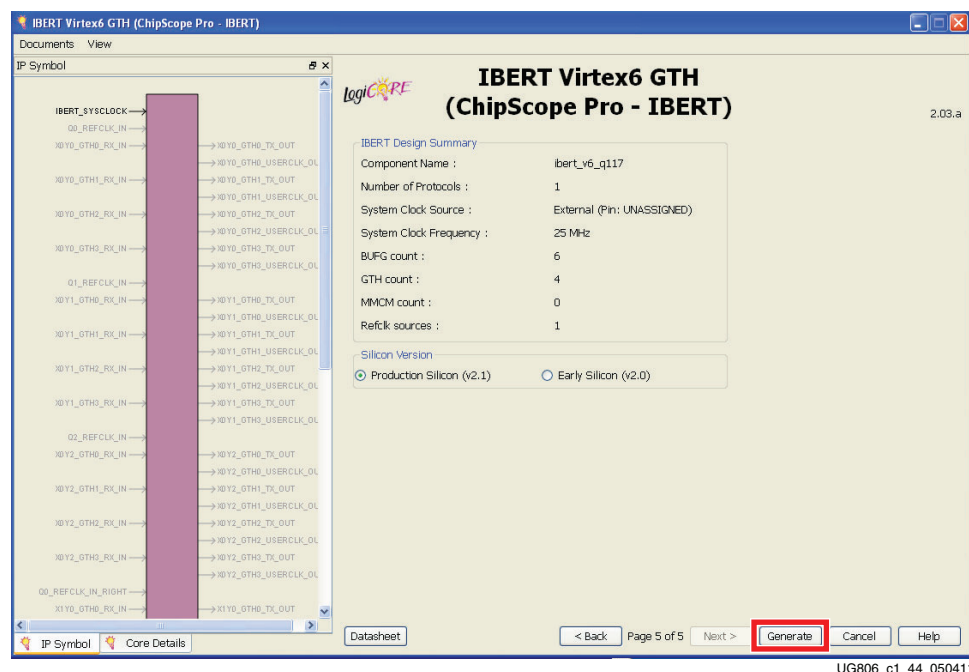

Figure 1-44: CORE Generator - IBERT GTH Customization - Page 5
13. Verify the information shown here and in Figure 1-44, then click **Generate**.